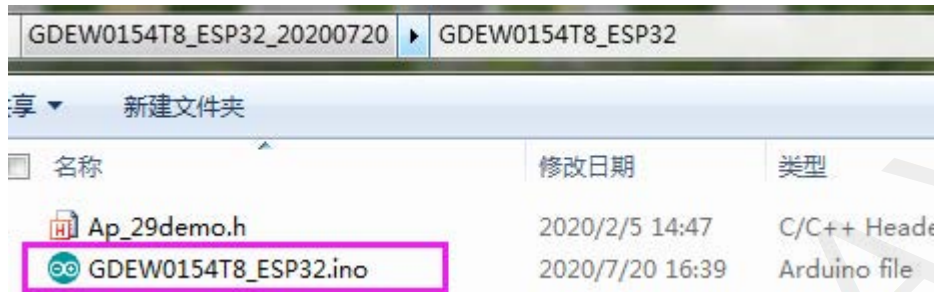

Figure 6 : Open Arduino.ino
2. Open Arduino in the driver folder shown in Figure 6 with Arduino 1.8.6 ino engineering document.